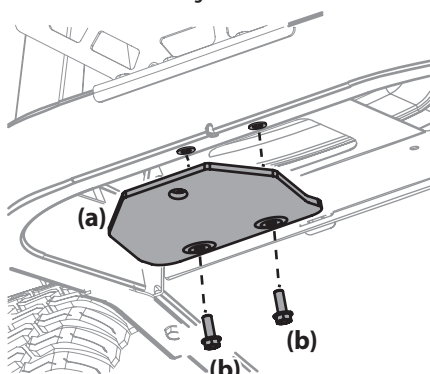

Figure 2
- Locate hitch (a) and install on the rear of the frame using the two hex washer screws (b) provided. See Figure 2.